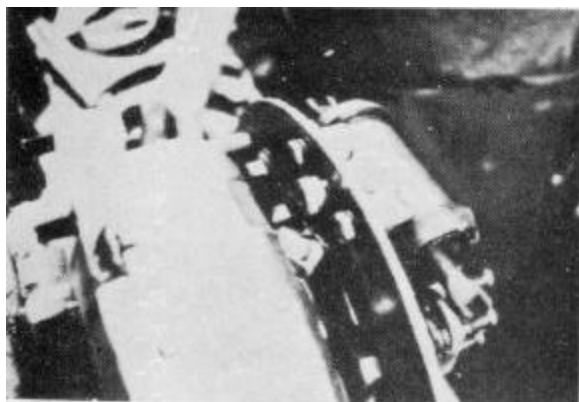

Figure 5-17
1. Remove the hydraulic service line and the cylinder bleeder line from the rear of the wheel cylinder, behind the backing plate. Fig. 5-17 shows the lines removed from the wheel cylinder.